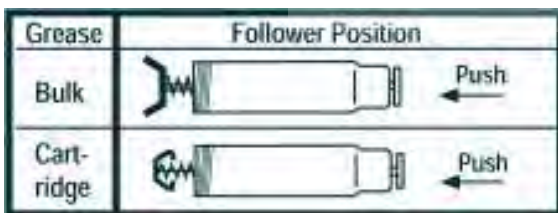

Fig 1
- 1) Select the correct follower position (see Fig 1).
- 1) Ensure the Follower is set in the bulk position (see Fig 1).